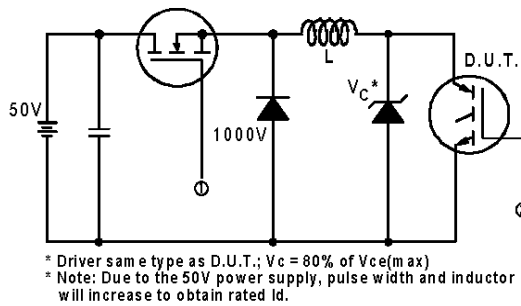

Fig. 13a - Clamped Inductive Load Test Circuit
- ② $V_{CC} = 80\%(V_{CES})$, $V_{GE} = 20V$, $L = 10\mu H$, $R_G = 100\Omega$, (See fig. 13a)
- ③ Repetitive rating; pulse width limited by maximum junction temperature.
④ Pulse width $\leq 80\mu s$; duty factor $\leq 0.1\%$.
⑤ Pulse width $5.0\mu s$, single shot.